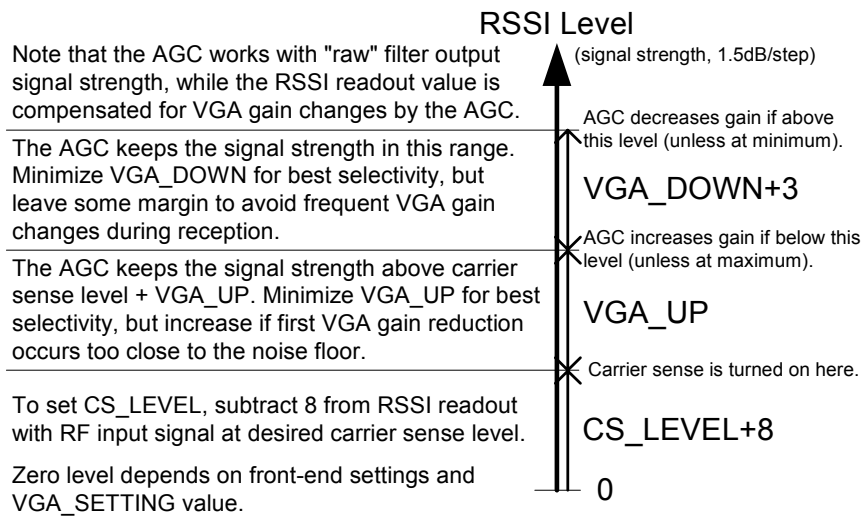

Figure 21. Relationship between RSSI, carrier sense level, and AGC settings `CS_LEVEL`, `VGA_UP` and `VGA_DOWN`.
`CS_LEVEL[4:0]` sets the threshold for this specific `VGA_SETTING[4:0]` value. If the `VGA_SETTING[4:0]` is changed, the `CS_LEVEL[4:0]` must be changed accordingly to maintain the same absolute carrier sense threshold. See Figure 21 for an explanation of the relationship between RSSI, AGC and carrier sense settings.
A digital RSSI is used to measure the signal strength after the ADC. The `CS_LEVEL[4:0]` in the `VCA4` register is used to set the nominal operating point of the gain control (and also the carrier sense level). Further explanation can be found in Figure 21.
5. If desired, adjust the `VGA_UP` and `VGA_DOWN` settings according to the explanation in Figure 21.